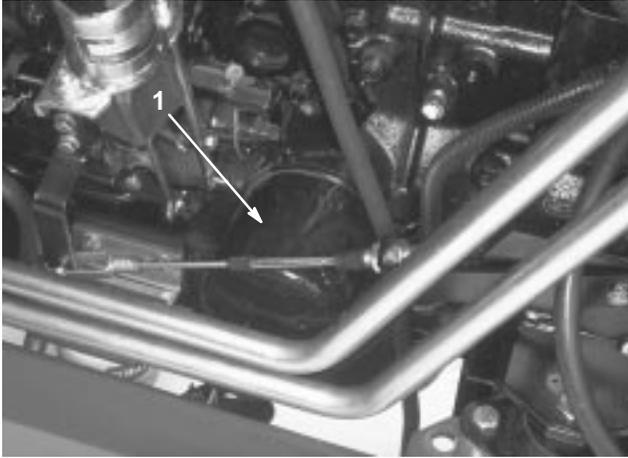

Figure 37
- Remove drain plug and allow oil to drain into pan. Remove and replace oil filter (Fig. 37); refer to parts catalog for replacement number. Apply a coating of oil to the filter O-ring and tighten filter by hand.